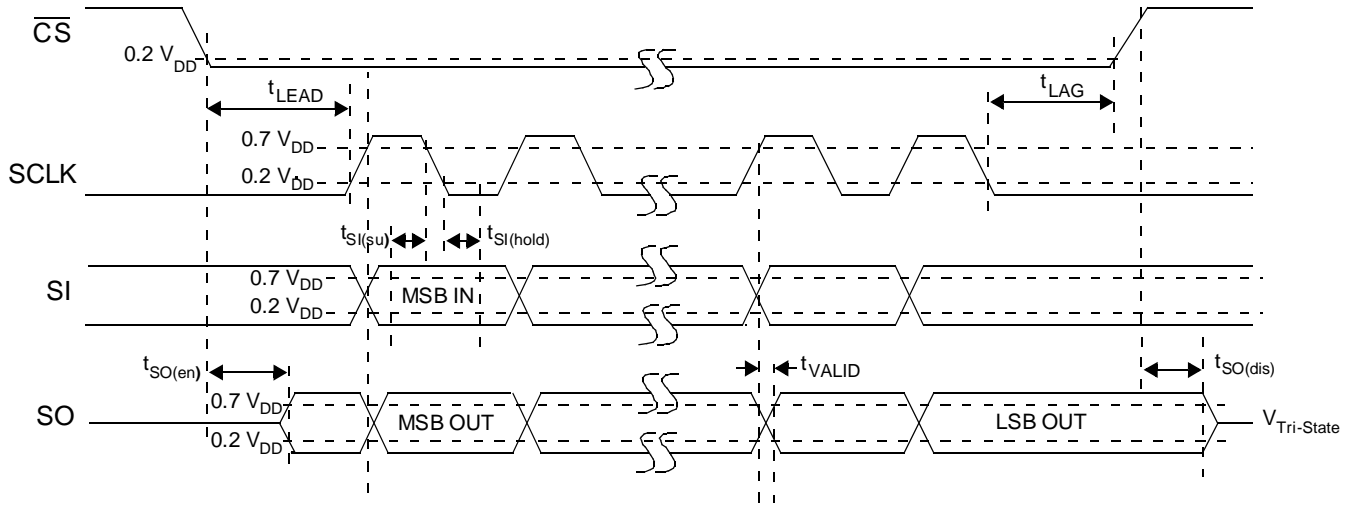

Figure 4. SPI Timing Characteristics
The Serial Input (SI) pin is used to enter one of seven serial instructions into the 33996. SI SPI bits are latched into the Input Shift register on each falling edge of SCLK. The Shift register is full after 24 bits of information are entered. The 33996 operates on the command word on the rising edge of $\overline{\text{CS}}$. To preserve data integrity, exercise care not to transition SI as SCLK transitions from high to low state (see Figure 4, page 8).